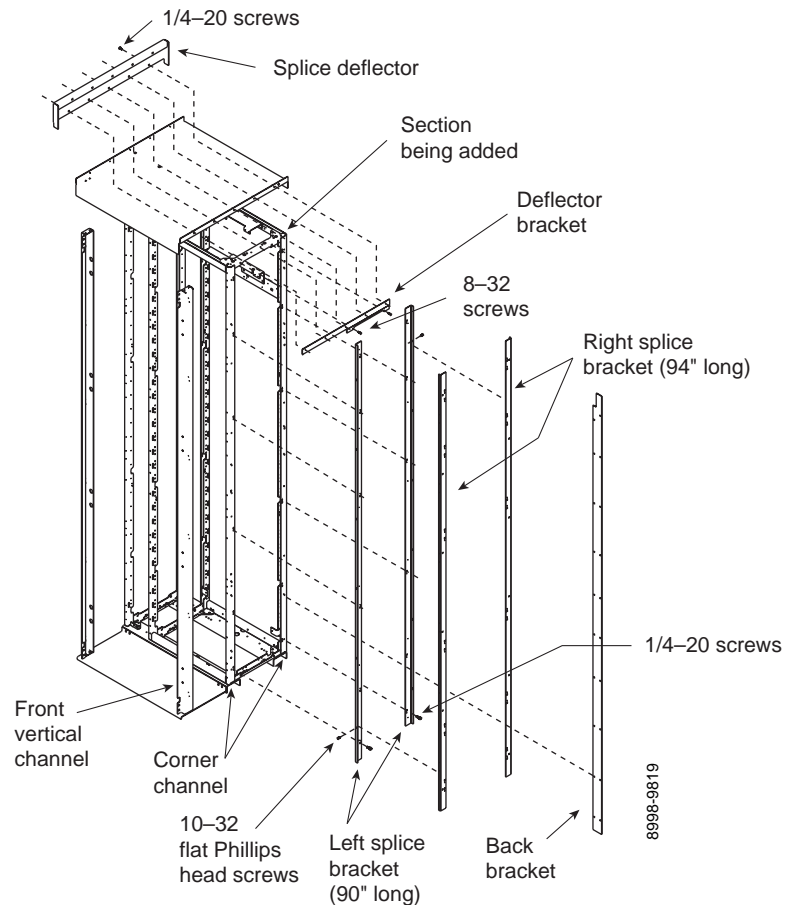
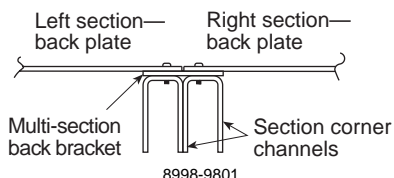

Figure 3: Install the deflector bracket
Figure 4: Re-attach the back plates
5. Install the deflector bracket (see Figure 3) on the rightmost section of the MCC being added using two 8-32 Phillips head screws included in the kit. The same holes from which the rivets were removed will be used to mount the deflector bracket. Ensure that the top holes of the bracket align with the holes in the top plate of the enclosure.
6. Attach a left splice bracket (see Figure 3), 90 inches long, to the front corner channel of the rightmost section of the MCC being added using six 1/4-20 screws contained in the kit. Ensure that the short flange is flush with the front of the corner channel and that the holes in the bracket line up with the holes in the corner channel.
7. Install a left splice bracket (see Figure 3), 90 inches long, to the rear corner channel of the rightmost section of the MCC being added using six 1/4-20 screws contained in the kit. Ensure that the short flange is flush with the back of the corner channel and that the holes in the bracket line up with the holes in the corner channel.
8. Attach a right splice bracket (see Figure 3), 94 inches long, to the left splice bracket installed in Step 6 using six 10-32 flat Phillips head screws contained in the kit. Ensure that the short flange is behind the flange of the left splice bracket. The right splice bracket will extend below the left splice bracket by approximately one inch when properly installed.
9. Install a right splice bracket (see Figure 3), 94 inches long, to the left splice bracket installed in Step 7 using six 10–32 flat Phillips head screws contained in the kit. Ensure that the short flange is in front of the flange of the left splice bracket. The right splice bracket will extend below the left splice bracket by approximately one inch when properly installed.
12. Using the 10–32 hex head screws removed in Step 2, re-attach the back plate (see Figure 4) to the rightmost section of the new MCC. Install the back bracket (see Figure 3 on page 2) under the back plate using the left side holes of the back bracket. Ensure that the notch at the top of the back bracket is installed toward the new MCC section.
13. Using the 10–32 screws removed in Step 2, re-attach the back plate (see Figure 4) to the right section.
14. Install the splice deflector (see Figure 3) to the rightmost section of the MCC being added. Use the five 1/4–20 screws supplied in the kit. Ensure that both top plate flanges are covered.
9. Re-attach the back plate (see Figure 4 on page 3) to the leftmost section of the MCC being added by using the 10–32 hex head screws removed in Step 3. Install the back bracket (see Figure 5) under the back plate using the right side holes of the back bracket. Ensure that the notch at the top of the back bracket is installed toward the new MCC section.
10. Using the hardware removed in Step 2, re-attach the back plate (see Figure 4) to the rightmost section of the existing MCC.